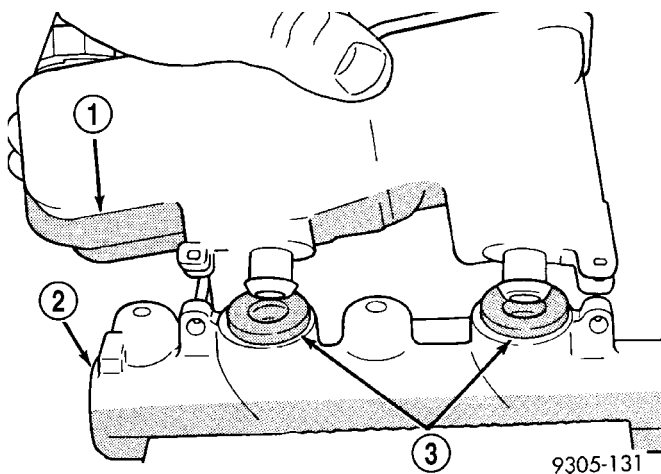

Fig. 68 Removing Reservoir
(6) Remove reservoir from master cylinder by pulling upward on the reservoir while rock it from side-to-side (Fig. 68).